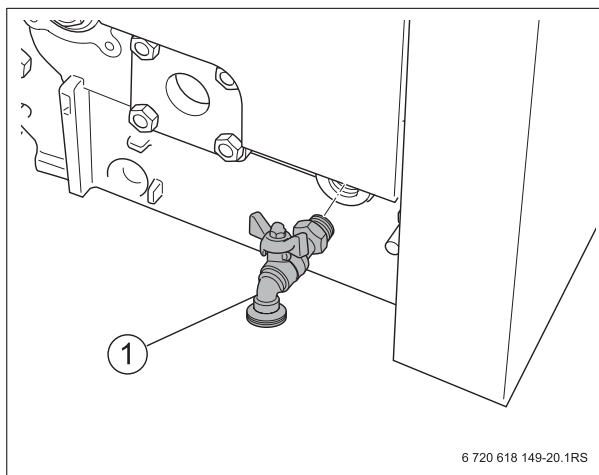

Fig. 26 Sealing the fill & drain valve
- Connect the fill & drain valve to the connection EL (→ Fig. 26).